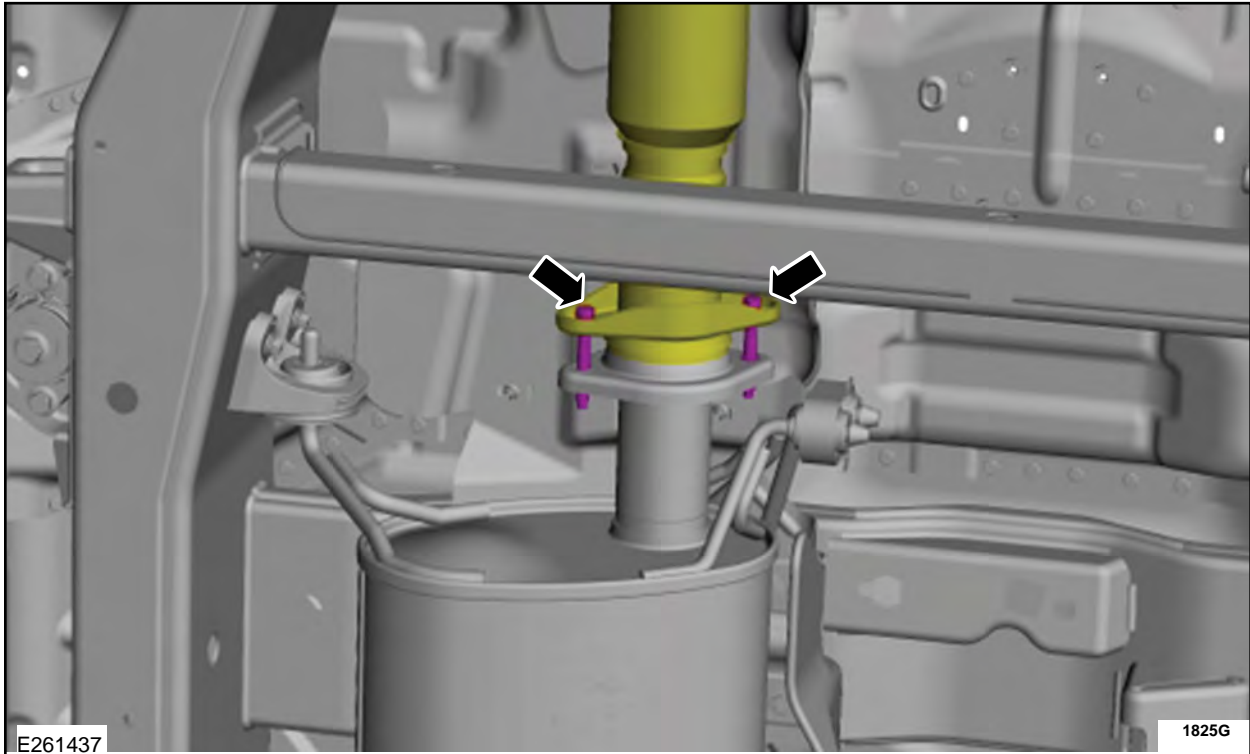

FIGURE 7
22. Remove the catalytic converter and muffler bolts. See Figure 7.